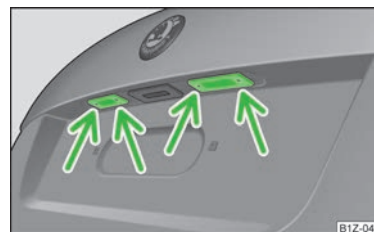

Fig. 167
- Open the luggage compartment door and unscrew the glass cover » Fig. 167.